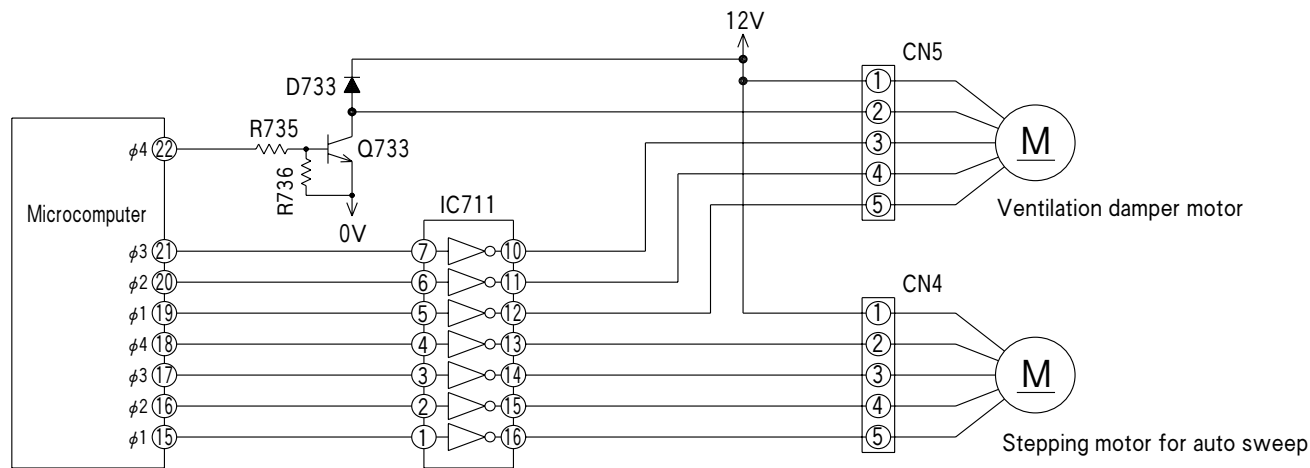
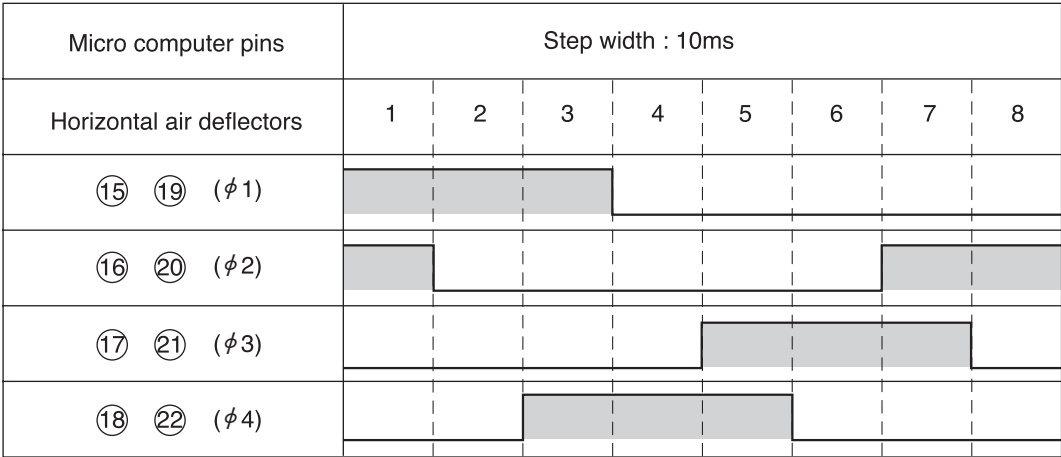

Fig.4-1
Fig.4-2 Microcomputer Output Signals
Fig. 4-1 shows the Auto sweep motor drive circuit; the signals shown in Fig.4-2 are output from pin ⑮ - ㉒ of microcomputer.
As the microcomputer’s outputs change as shown in Fig.4-2, the coils of the auto sweep motor is excite to turn the rotor. Table 4-1 shows the rotation angle of Horizontal Air Deflector, Ventilation Damper.